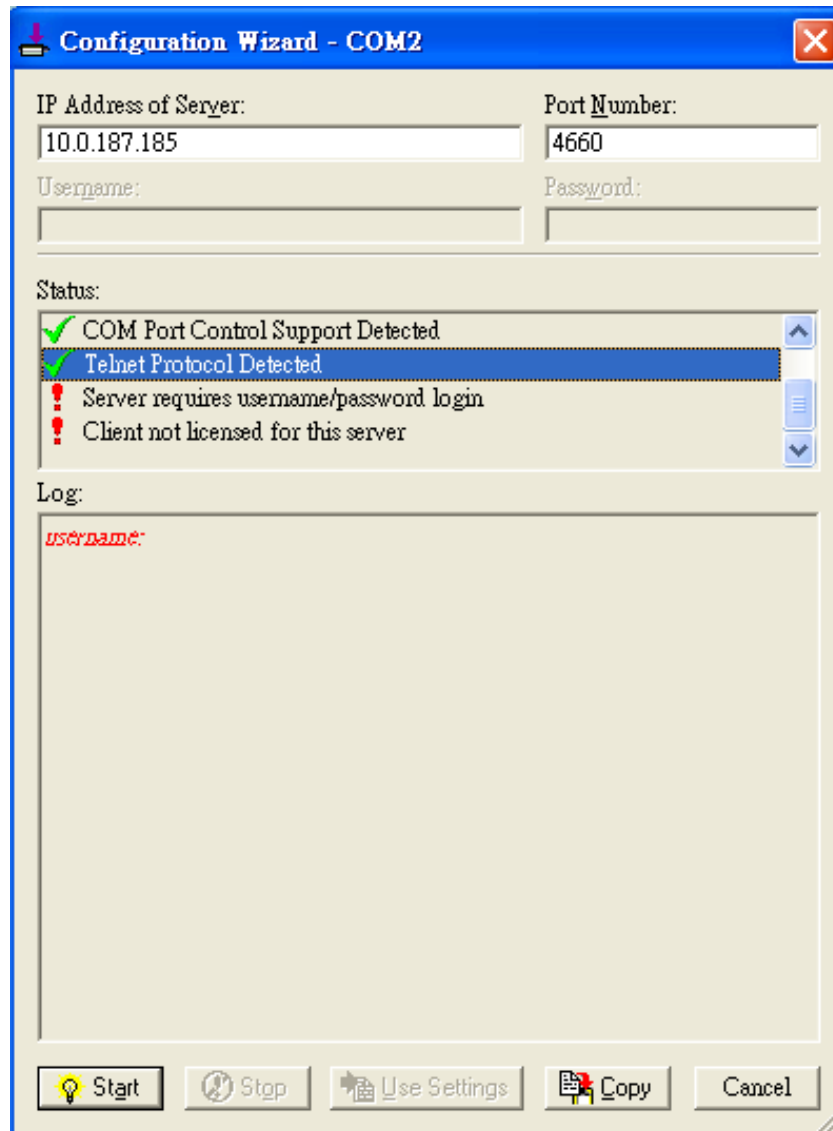

Figure 6.14 VCOM Authentication failed due to Missing Username/Password
- If the status reports with an exclamation mark with a message “**Server requires username/password login**” as shown in Figure 6.14. This means that the **VCOM Authentication** option in the serial device server (i.e. SE5201) is enabled but the **User Credentials** option in the **Serial/IP** utility software is not enabled. Please follow the steps in Section 4.10.2 for enabling the user credentials option and entering the username and the password.